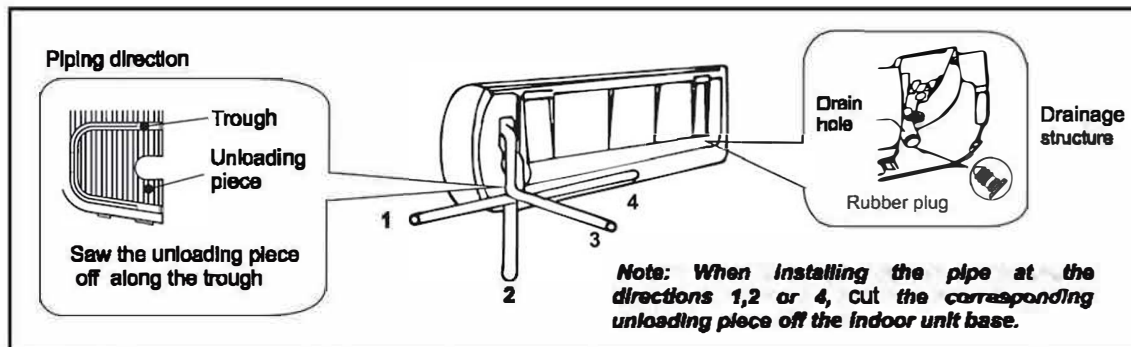

Fig. 407
- 2) Decide whether to cut the unloading piece off in accordance with the piping direction. (Fig. 407)